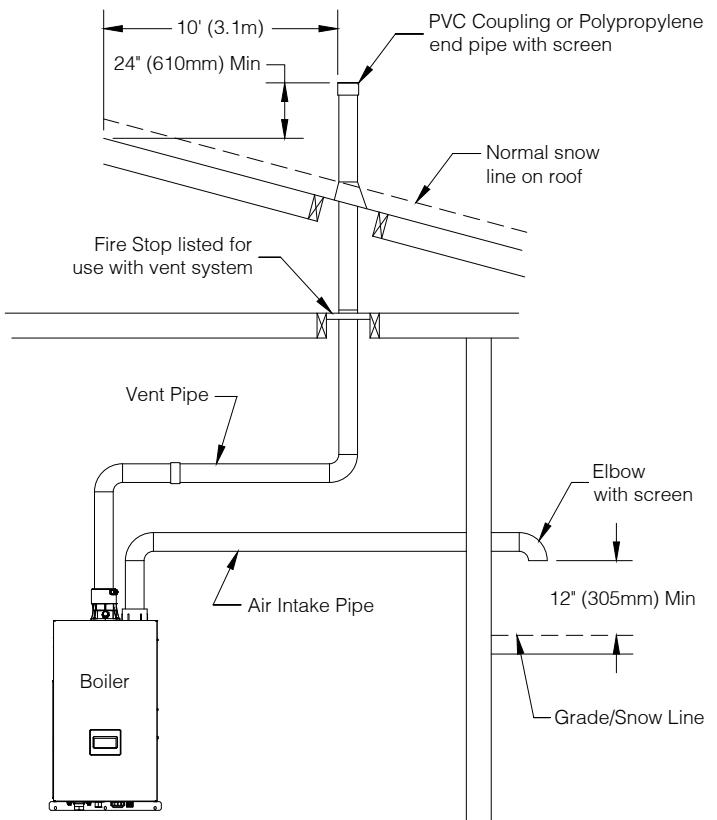

Figure 9-5: Alternate Vertical Vent/Sidewall Air Terminal
5. Alternate terminal arrangement with vertical vent and sidewall air intake is permitted. See Figure 9-5.